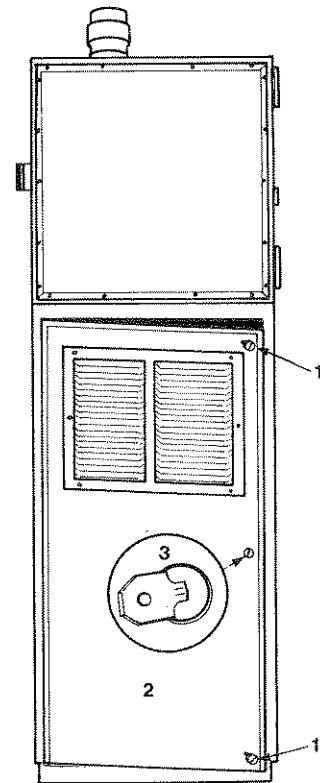
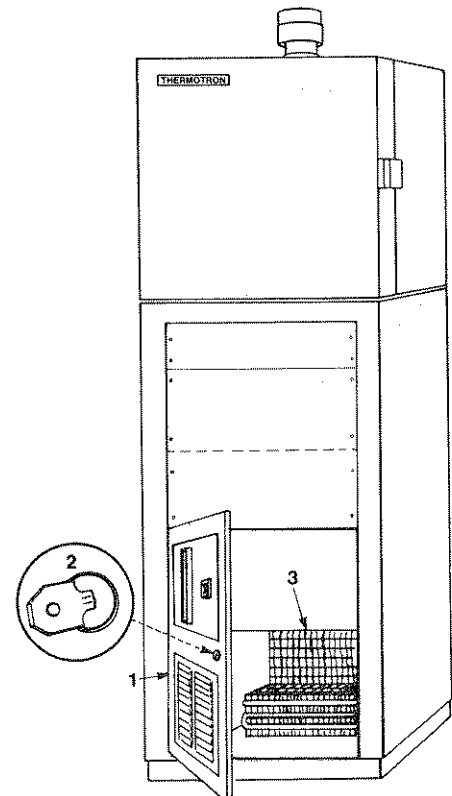

FIGURE C2
FIGURE C3
- a. Loosen the latch screws (1) on the door (2). Do not remove the screws from the door. See Figure C2.
- b. Turn the key (3) to the left.
3. To open the front door (1) of the console, turn the key (2) to the left. See Figure C3.
4. Use an OSHA approved source of compressed air to blow all the dust and dirt from the condenser fin coil (3).